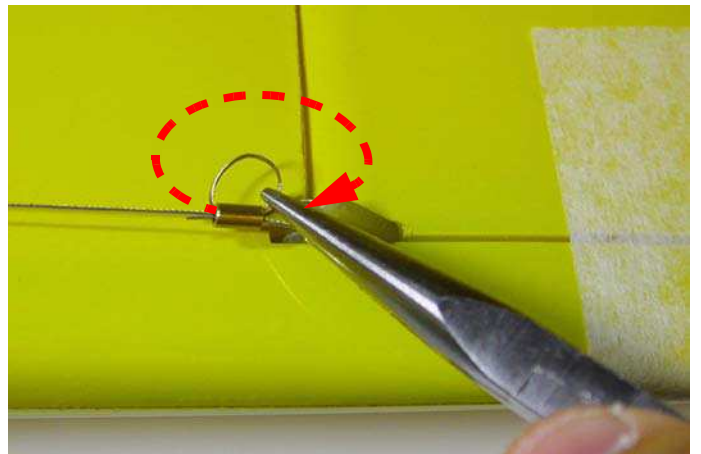

Fig.101: Make a ring with the end of the cable.
- make a ring with the end of the cable and insert it, once again, into the same tube and in the same way (see figure 101);